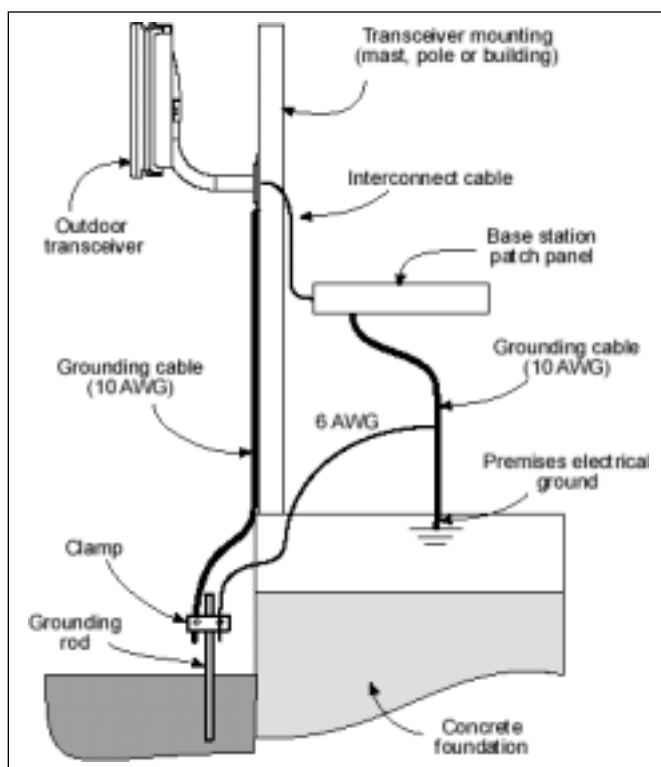

Figure 5-16 Ground Connections to Access Point Transceiver
3. Attach a grounding clamp to the grounding rod. You will use this clamp to attach grounding wires for both the outdoor transceiver and indoor junction box, reference Figure 5-16.